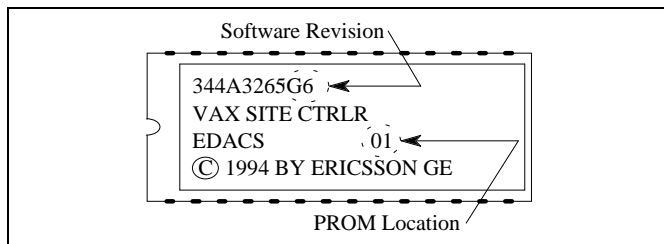

Figure 7 - Application Software PROM Label
Check the revision number marked on the Application Software PROMs. Each of the 14 Application Software PROMs must be marked 344A3265Gx, where x = 6 or higher. (Application Software with x = 5 or lower will not work for the new PMU option.) Figure 7 shows where to find the software revision number and the PROM location number on a typical Application Software PROM label. Replace all 14 Application Software PROMs if required.
9. Connect the existing cable labeled “RS232” in step 4 to the right-hand VDT interface on the back of the new PMU (see Figure 7).